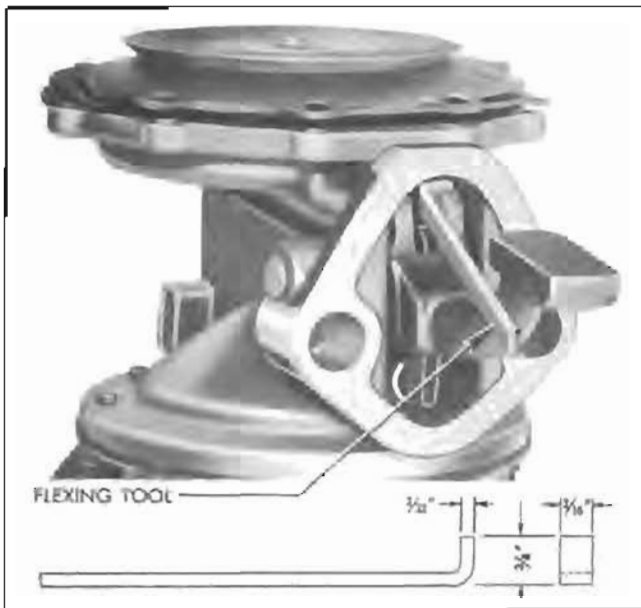

Figure 3-21—Vacuum Diaphragm Flexing Tool in Place
7. Depress rocker arm and insert hooked end of Diaphragm Flexing Tool KMO-613 (AC No. PT-8) between rocker arm and the stop cast in pump body, then release rocker arm. The vacuum diaphragm will be held in a flat or level position. See figure 3-21.